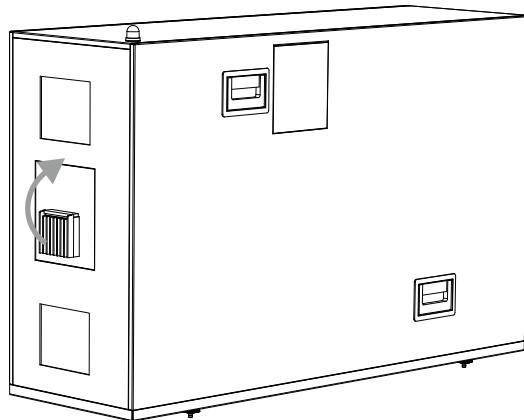

Figure 63: Opening the beam shutter
3. Open the beam shutter (see Figure 63).